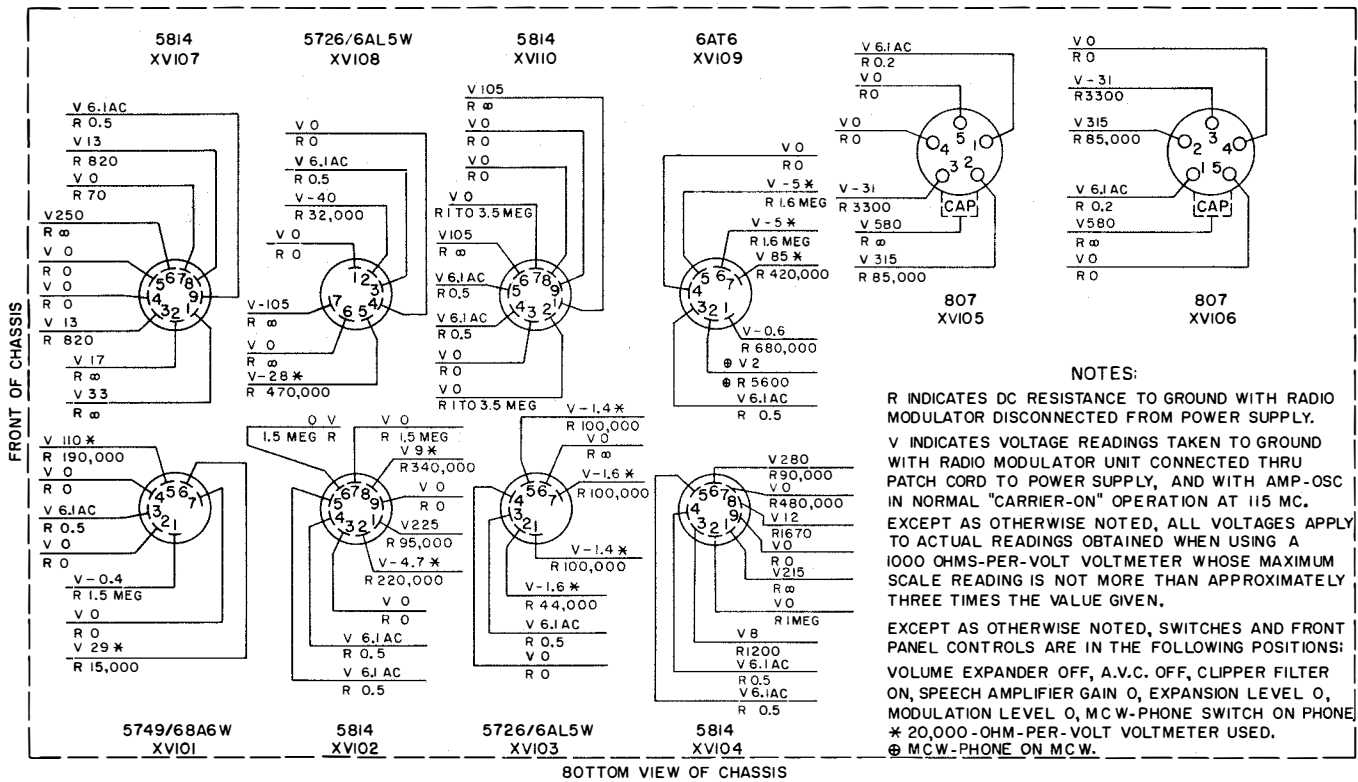
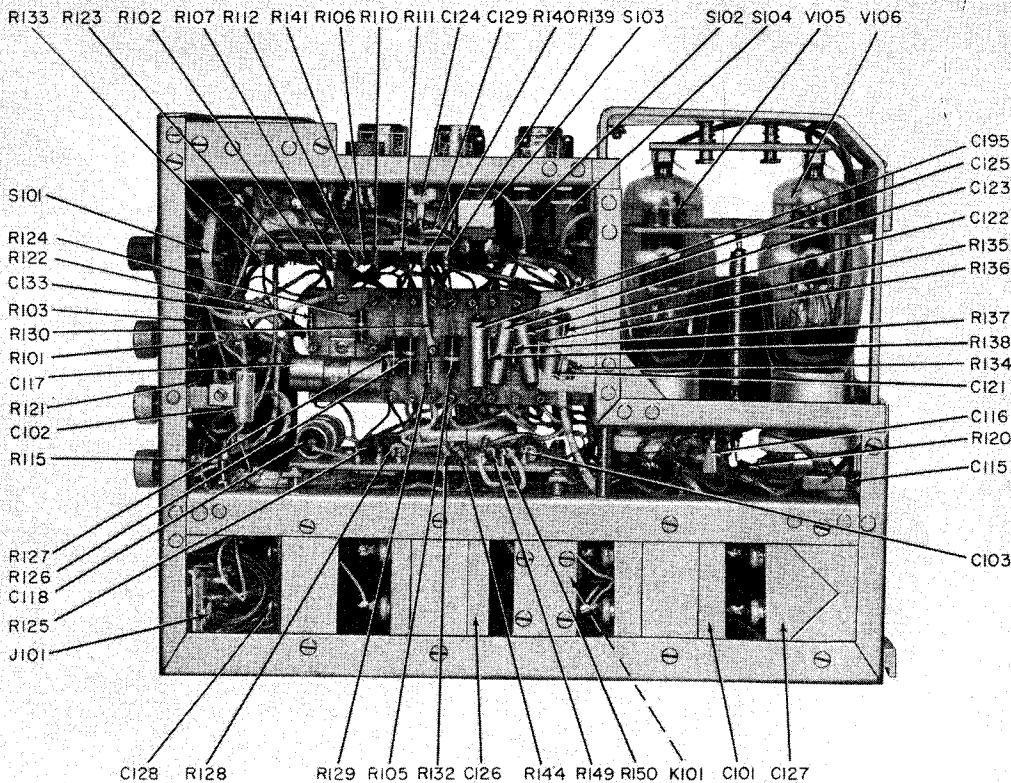

Figure 7-13. Radio Modulator MD-163C/URT Tube Socket Voltages and Resistances
Figure 7-14. Radio Modulator MD-163C/URT, Right Side View
V INDICATES VOLTAGE READINGS TAKEN TO GROUND UNLESS OTHERWISE NOTED, WITH AMP-OSC CONNECTED THROUGH PATCH CORD TO POWER SUPPLY. NORMAL "CARRIER ON" OPERATION AT 115 M.C. MODULATOR SWITCHES AND FRONT PANEL CONTROLS IN POSITIONS GIVEN IN FIG. 7-13.
V INDICATES VOLTAGE READINGS TAKEN TO GROUND WITH MODULATOR UNIT CONNECTED THROUGH PATCH CORD TO POWER SUPPLY. NORMAL "CARRIER ON" OPERATION AT 115 MC. MODULATOR SWITCHES AND FRONT PANEL CONTROLS IN POSITIONS GIVEN IN FIG. 7-13.
If it becomes necessary to check voltages and resistances in order to locate a defective component, follow the measurement procedure described in the tube-socket diagram, figure 7-13. The readings which should be obtained are indicated in that illustration, while those which should appear at connector J101 are shown in figure 7-5. The components of the Radio Modulator may be identified from figures 7-14 and 7-15.
- MODULATOR CONTROLS AND SWITCHES IN POSITIONS GIVEN IN FIG. 7-13.